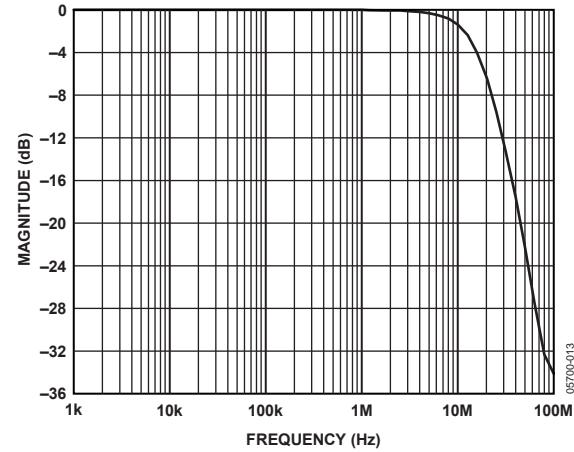
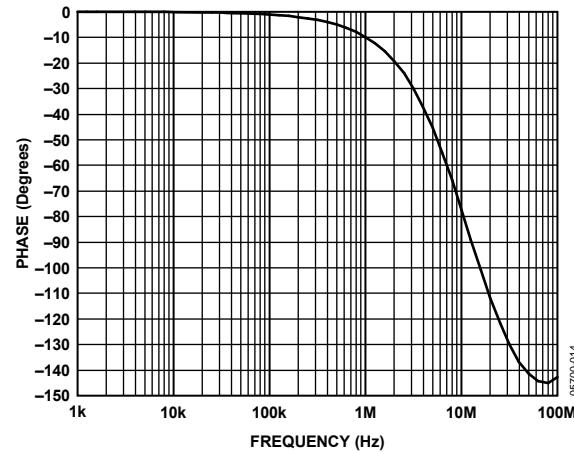

Figure 18. Antialiasing Filter Magnitude Response
Figure 19. Antialiasing Filter Phase Response
The ADV7180 has optional on-chip antialiasing (AA) filters on each of the three channels that are multiplexed to the ADC (see Figure 17). The filters are designed for standard definition video up to 10 MHz bandwidth. Figure 18 and Figure 19 show the filter magnitude and phase characteristics.